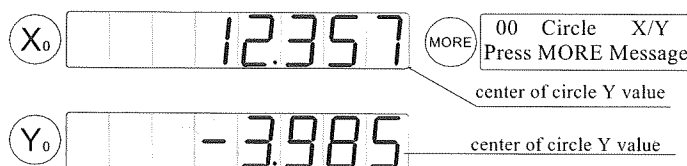

Figure 1-16
- 2) Press **MORE**, and the message is displayed as in figure 1-16. The displayed values of the X and Y axes imply the value of the center of the circle.